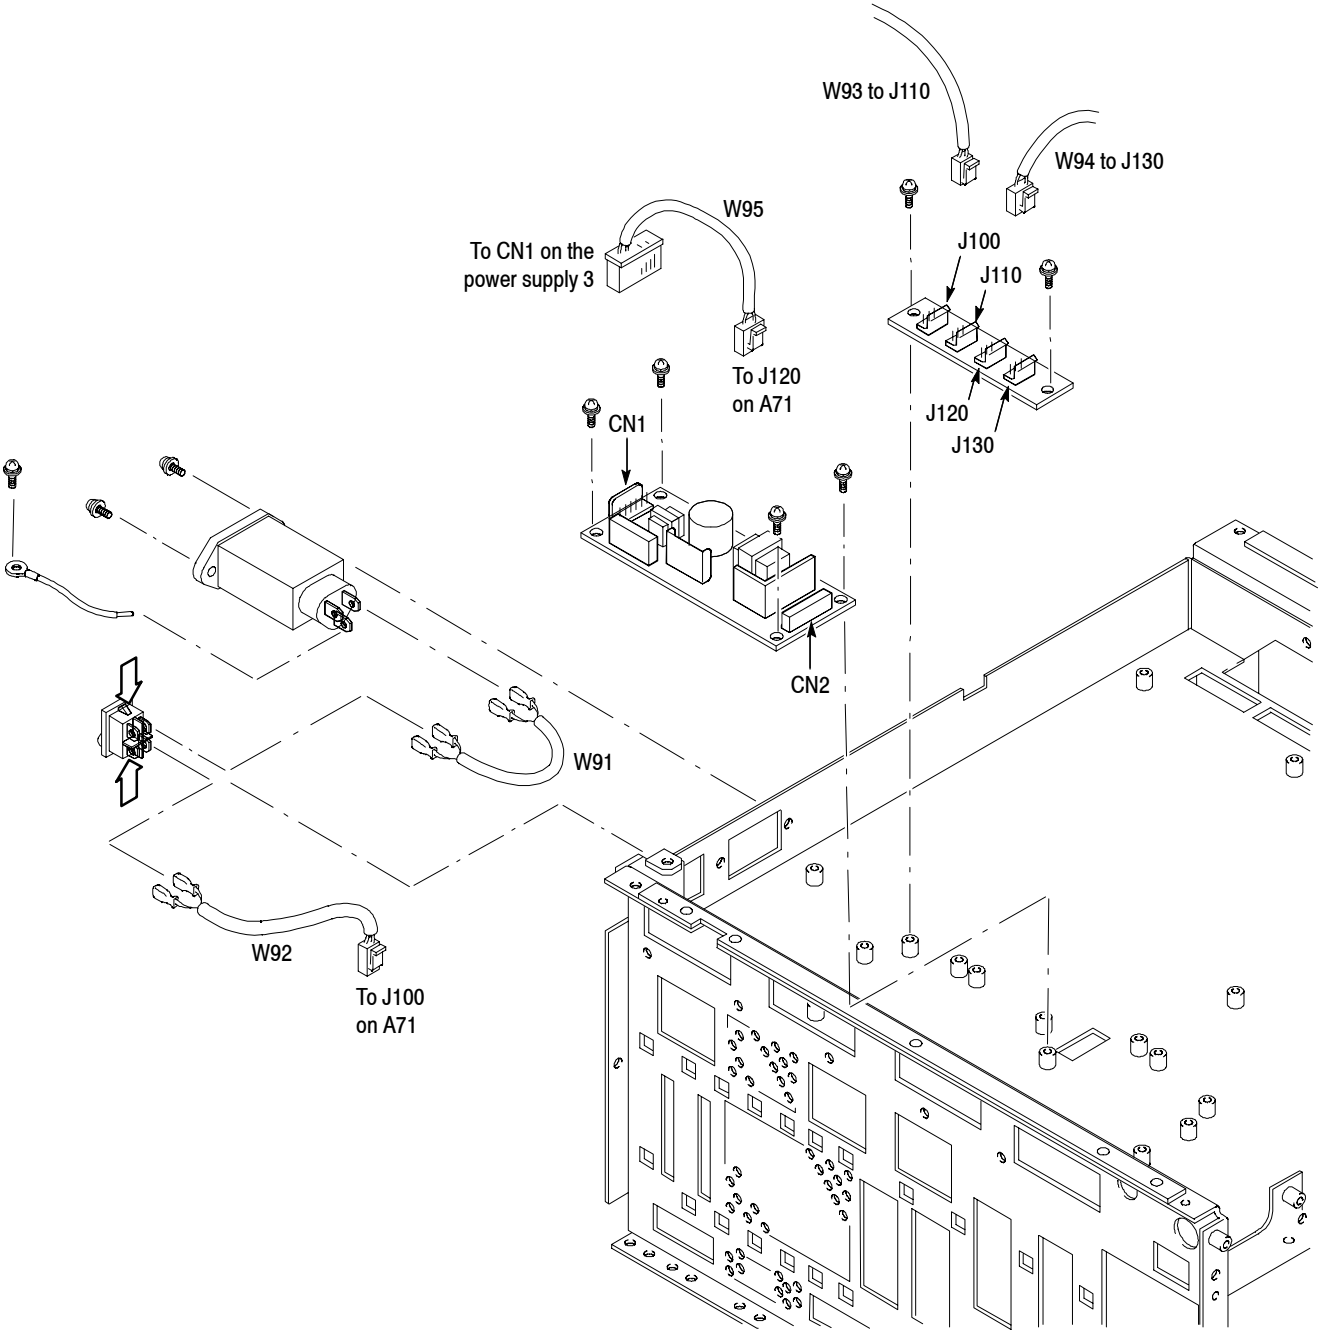

Figure 6-22: Power supply modules removal
3. *Remove the power supply 1:* See Figure 6-22. Also see Figure 6-36 (RSA2203A) or 6-37 (RSA2208A) for cable interconnection.
4. *Remove the power supply 2:* See Figure 6-22. Also see Figure 6-36 (RSA2203A) or 6-37 (RSA2208A) for cable interconnection.
3. *Remove the A71 AC power board:* See Figure 6-22. Also see Figure 6-36 (RSA2203A) or 6-37 (RSA2208A) for cable interconnection.
3. *Remove the power supply 3:* See Figure 6-22. Also see Figure 6-36 (RSA2203A) or 6-37 (RSA2208A) for cable interconnection.
3. *Remove the line filter:* See Figure 6-22.
3. *Remove the principal power switch:* See Figure 6-22.